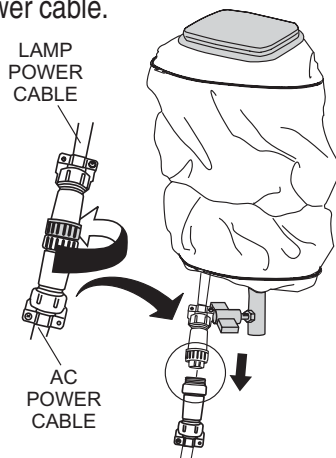

Figure 8. Disconnecting Power Cables
2. Disconnect lamp power connector (Figure 8) from the AC power cable.